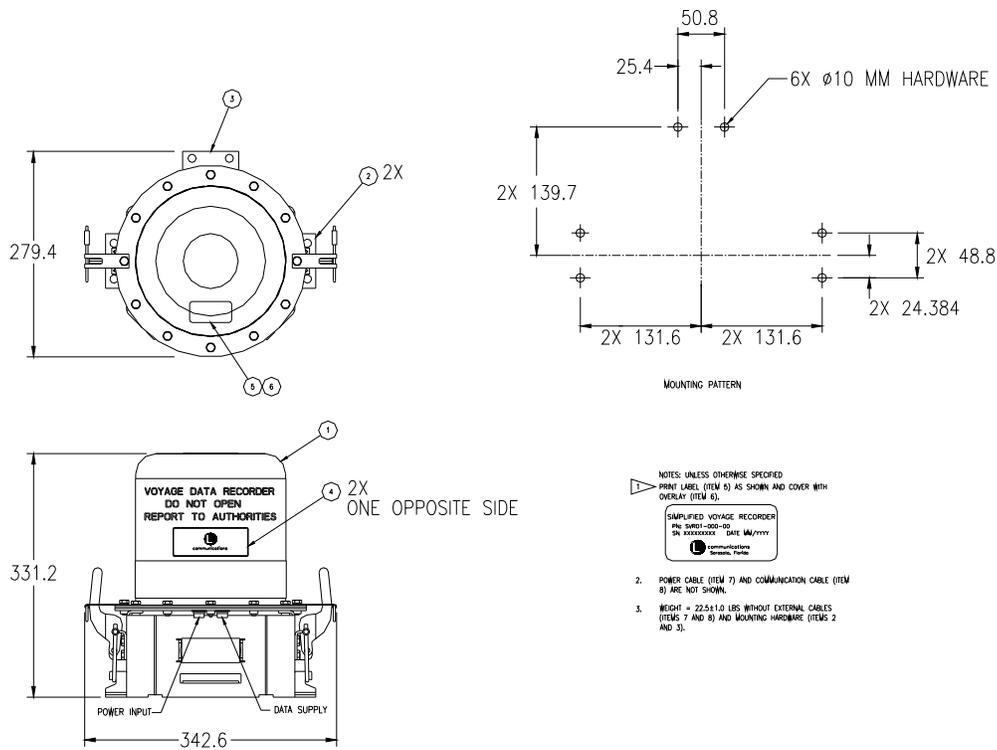
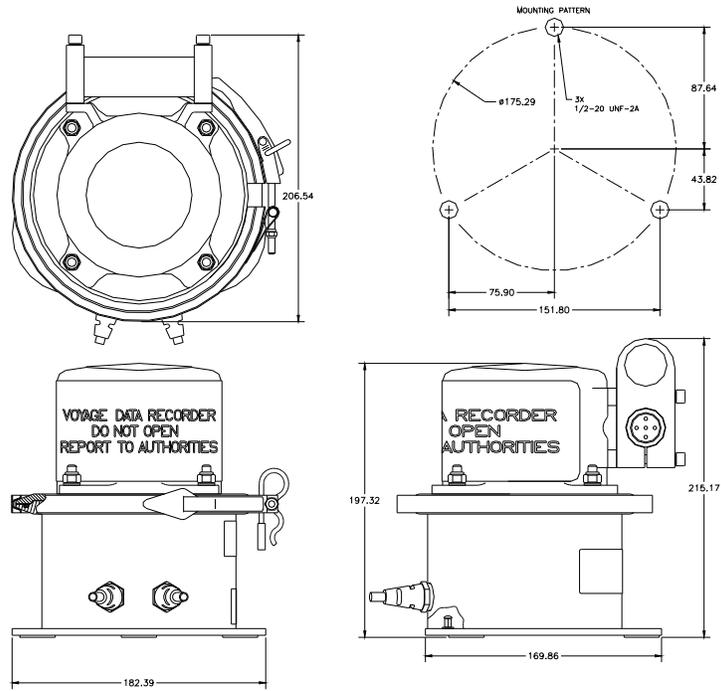
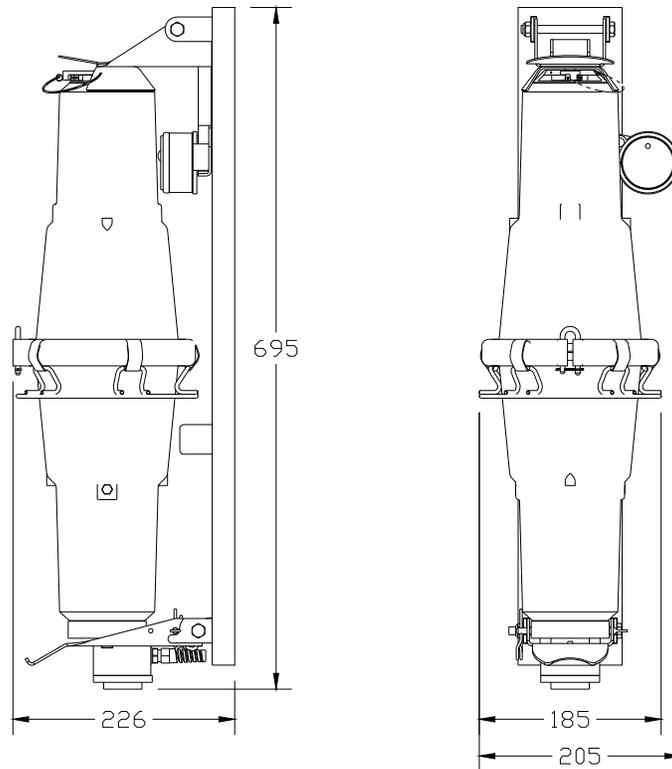
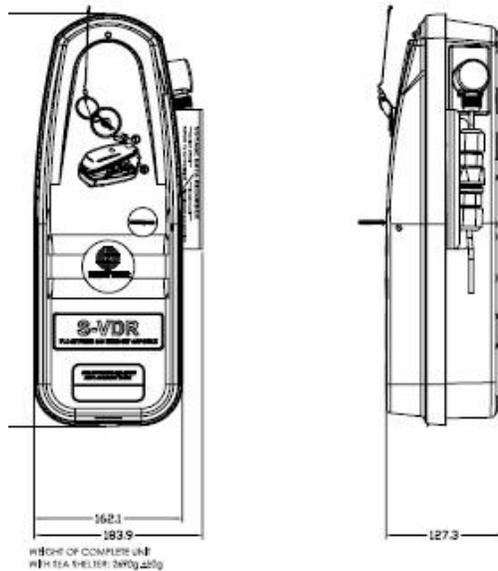

Figure 3-11 - L3 SVR-01 Fixed SFRM Capsule
Figure 3-12 - L3 SVR-02 Fixed SFRM Capsule
Figure 3-13 - VDR-100G2S – Jotron Float-Free SFRM Capsule
Figure 3-15 - Rutter-ACR Float-Free SFRM Capsule
**Note!** The mounting pattern provided in Figure 3-11 - L3 SVR-01 Fixed SFRM, Figure 3-12 - L3 SVR-02 Fixed SFRM Capsule, Figure 3-13 - VDR-100G2S – Jotron Float-Free SFRM Capsule and Figure 3-15 - Rutter-ACR Float-Free SFRM Capsule above, is applicable to the **VDR-100G2S Simplified FRM only.**